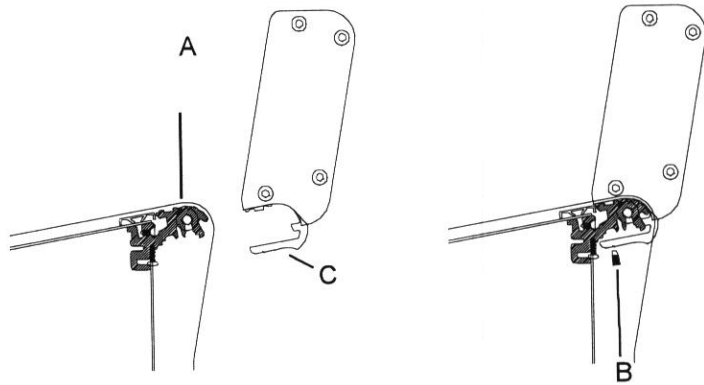
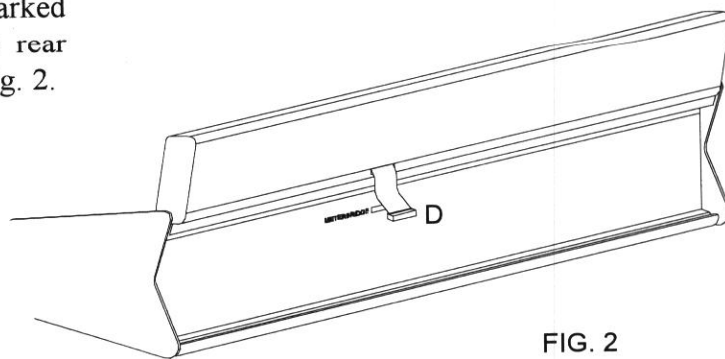

FIG. 1
FIG. 2
- 1.) Carefully unpack the meterbridge and fit it over the console rear extrusion (A) as shown in fig 1. Make sure all of the grub screws (B) are fully withdrawn from the meterpod extrusion (C) before fitting.
- 2.) Once the meterbridge is in place, tighten the grub screws (B) to secure the meterbridge in place.
- 3.) Plug in the meterbridge harness (D) into the connector marked **METERBRIDGE** on the rear panel of the console. See fig. 2.